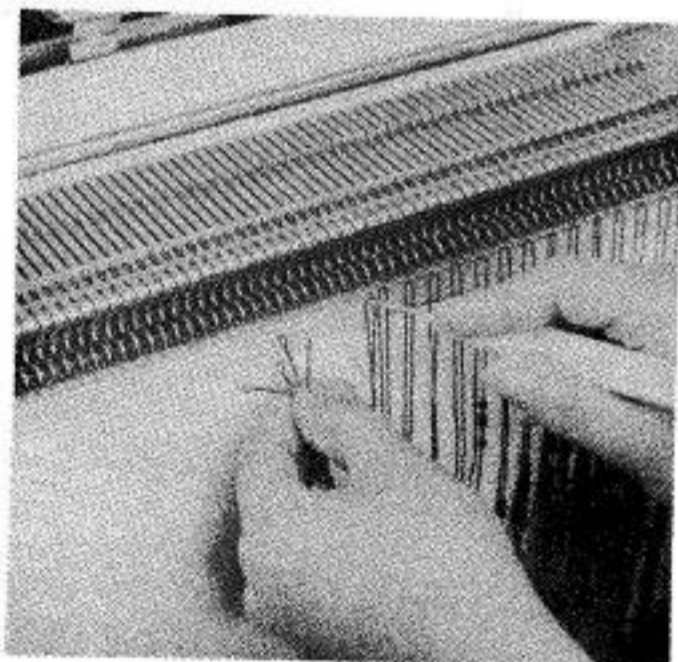

Fig. 77
- (b) Place each loop of the cotton into the hook of **alternate** working needles along that section of the work where the bead patterning is to be introduced. (Figs. 77 & 78)